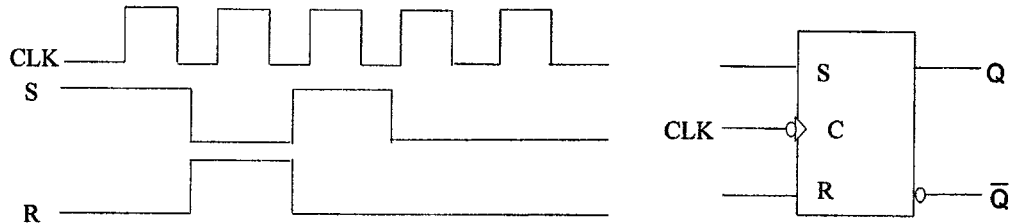

Figure 12
- (b) Determine the Q and \bar{Q} output, for the SR flip flop as shown in Figure 12.